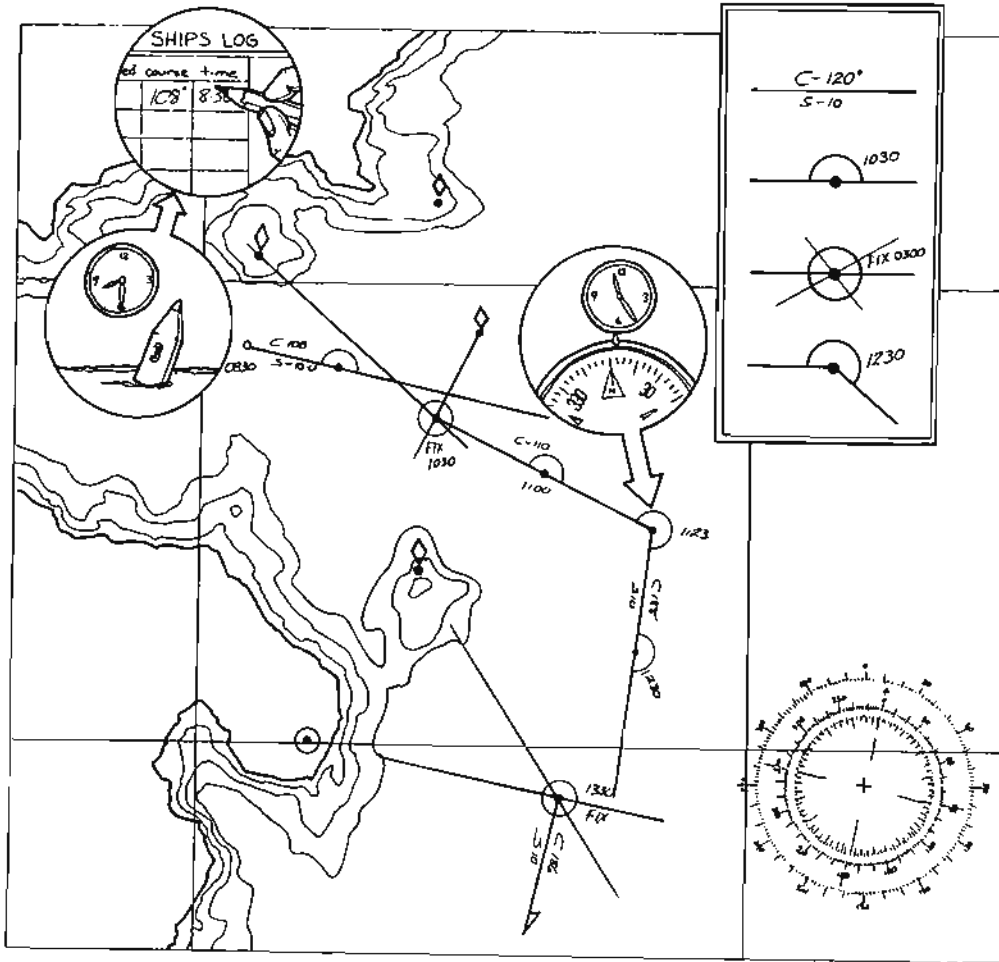

Figure 6-18. A DR is simply a running plot of your progress over the ground.
Dead reckoning (DR) is the act of putting together the elements of navigation as you guide a vessel from place to place. Your DR is the sum of all the information you receive - heading, speed, bearings, soundings - from whatever source. It depends on three things: your point of departure, your course over the ground (including all its twists and turns), and your distance run. Know those three things, and you'll always know the position of your vessel (Figure 6-18).